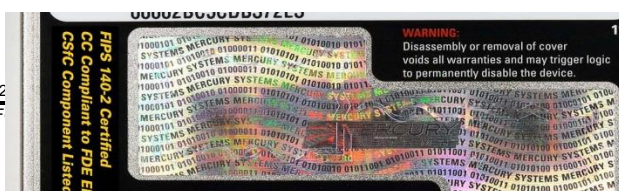
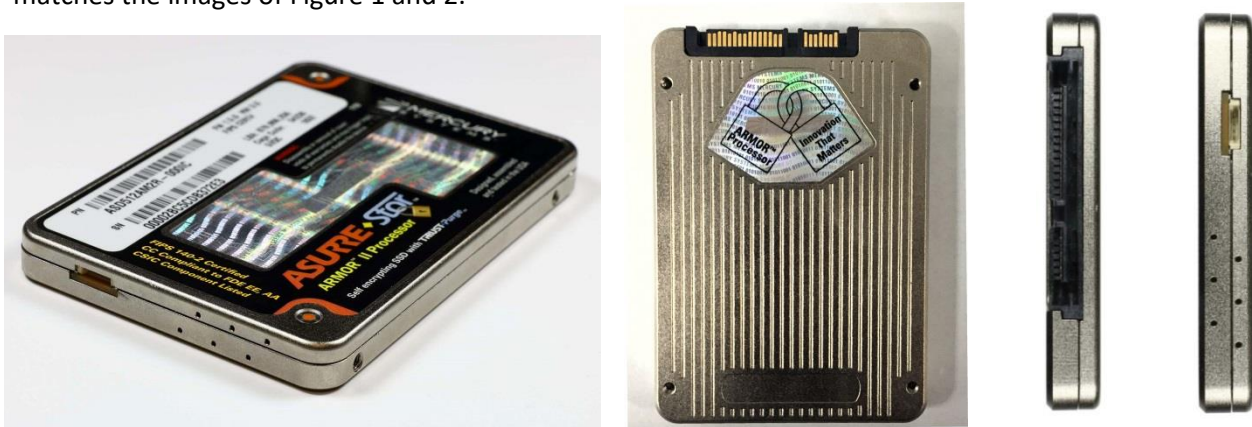

Figure 1: View of the holographic label located in the center of the main label.
Figure 2: Images of the **ASURRE-Stor® SSD**
- The TOE includes a difficult to duplicate holographic label shown in Figure 1. The label isn't intended to be a tamper seal, however the label can be difficult to remove and will show signs of tearing or discoloration if improperly handled during a tamper event.
- Verify that the Firmware version (FW) and Hardware revision (HW) printed on the main label matches the following: “FW 1.5.1 HW 3.0”
- Images of the **ASURRE-Stor®** SSD appear in Figure 2. Inspect the TOE to verify that the product received matches the images of Figure 1 and 2.